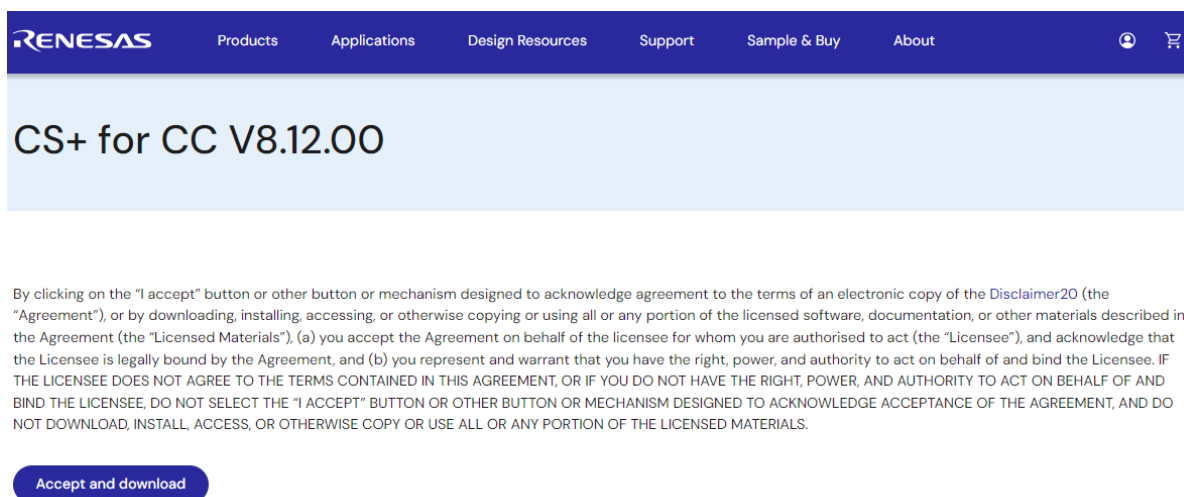

Figure 2 Renesas CS+ for CC V8.12.00
- Please use the link to download Renesas CS+ for CC V8.12.00 or later. It will re-direct you as shown in *Figure 2 Renesas CS+ for CC V8.12.00*. It is recommended to use the latest versions available.